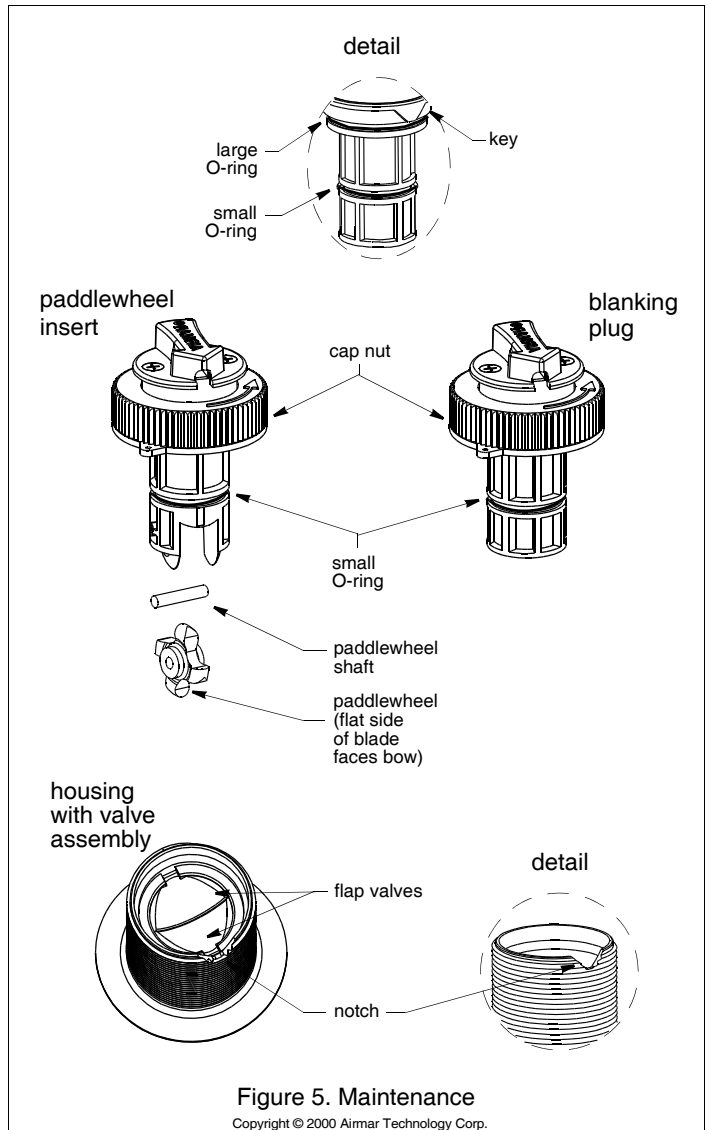

Figure 5. Maintenance
3. To remove the paddlewheel insert from the housing, unscrew the cap nut. This will jack the insert out of the housing. *Do not unscrew the screws.* Replace the paddlewheel insert with the blanking plug. Seat it into place with a pushing twisting motion until the key fits into the notch in the housing. Screw the cap nut in place and **hand tighten only**. Do not over tighten (see Figure 5).
1. Using the new paddlewheel shaft, push the old shaft out about 6mm (1/4"). With pliers, remove the old shaft (see Figure 5).